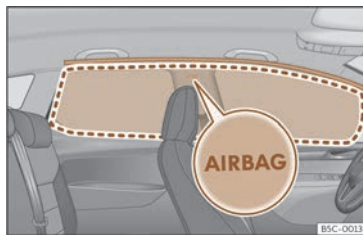

Fig. 36 Location of head-protection airbags.
Head-protection airbags are on both sides of the passenger compartment, above the doors >>> Fig. 36 and their location is indicated with the word "AIRBAG".
The framed area is covered by the head-protection airbag when it is deployed (deployment area) >>> Fig. 36. Therefore, objects should never be placed or mounted in this area >>> .
- Ensure that children are correctly seated in their seats and that their heads are not in the deployment zone of the head airbags >>> Fig. 36, as deploying airbags could hit them and cause serious injury.